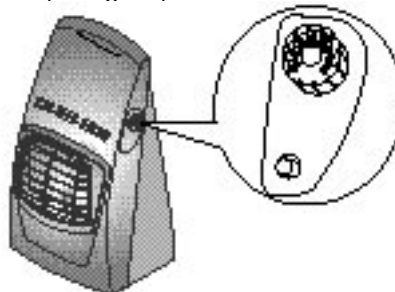

Fig.11 Control Knob
3. Turn thermostat control knob clockwise  to the OFF position (see fig. 11).
5. Turn thermostat control knob counterclockwise  to the pilot position. Press in thermostat control knob for 5 seconds (see fig. 11).